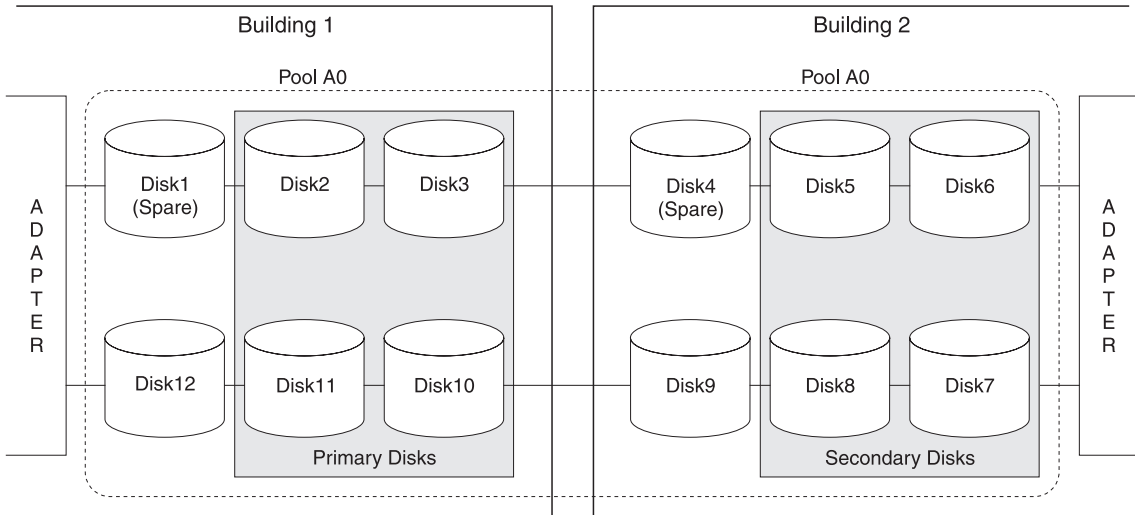

Figure 11. Primary Disks in Building 1; Secondary Disks in Building 2
Figure 11 shows an array that has its primary disk drives (disk2, disk3, disk10, and disk11) in building 1, and its secondary disk drives (disk5, disk6, disk7, and disk8) in building 2. Disk1 and disk4 have been assigned as hot-spare disk drives, but only one hot-spare pool has been defined (A0). This hot spare pool contains all the components of the array and both the hot-spare disk drives disk1 and disk4.
**Note:** In Figure 11, the one hot-spare pool A0 includes both buildings, and provides no method that allows the Hot-Spare Management mechanism to distinguish where each hot-spare disk drive is physically located.